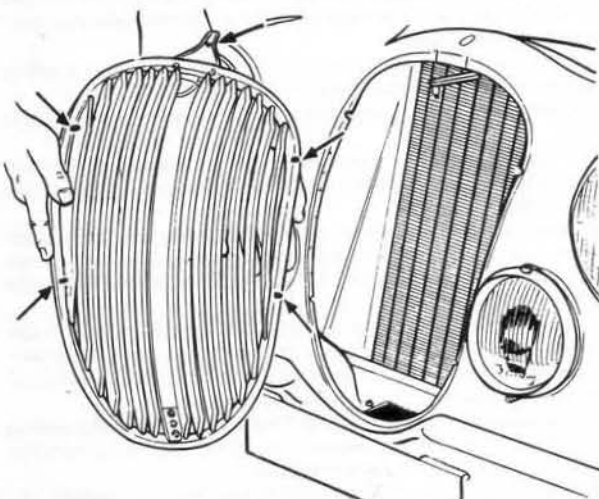

Fig.12.23. Showing the mounting points for the radiator grille
- 3 Unscrew the four nuts (five in the case of Mk 1 cars and six in the case of early 2.4 litre models) and remove the small angle brackets which secure the grille to the body. Lift off the grille (Fig.12.23).